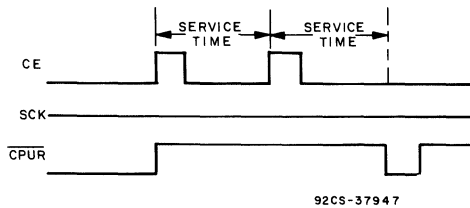

Fig. 10 - Watchdog operation waveforms.
3. Watchdog Reset (actually a non-transfer) - Fig. 10
WATCHDOG RESET - (See Fig. 10.)